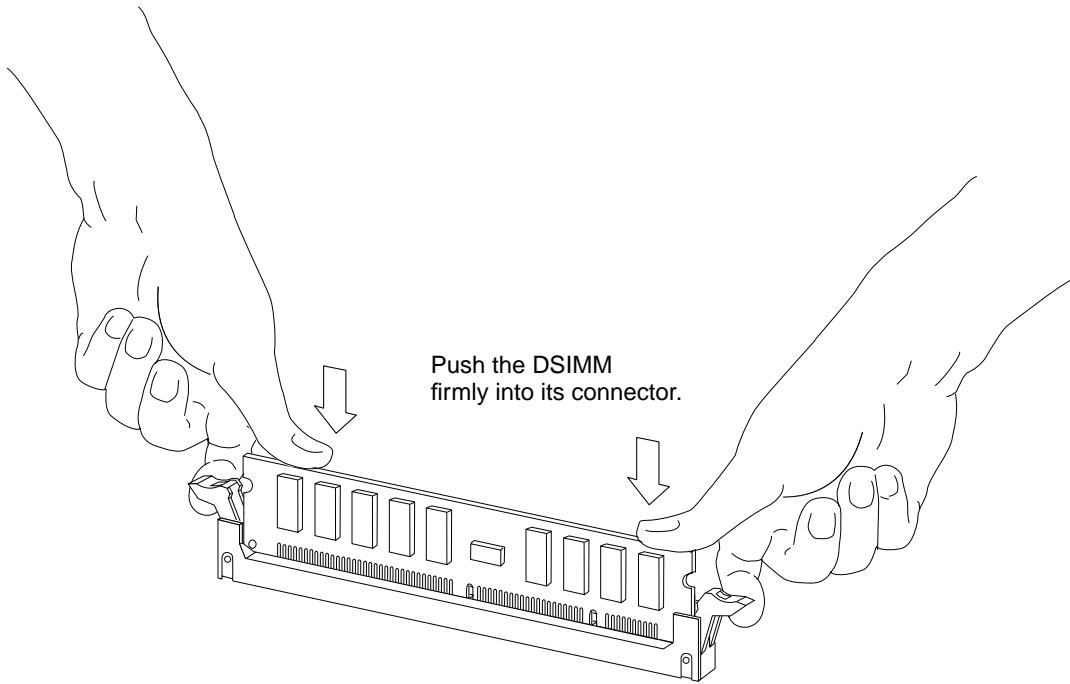

FIGURE 11-17 Installing a DSIMM
4. Place your thumbs as shown in **FIGURE 11-17** and push the DSIMM firmly into its connector.